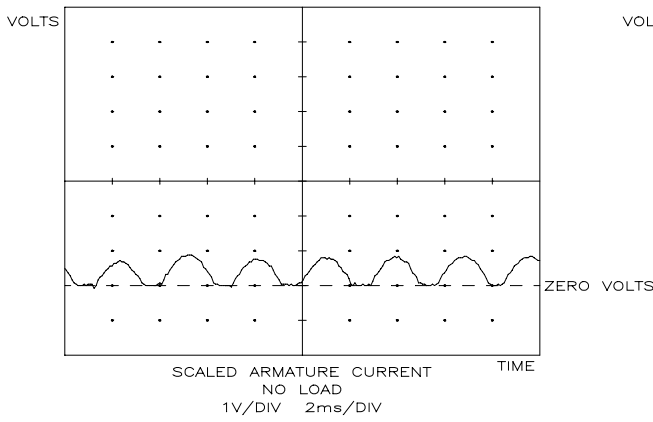

FIGURE 12
The polarity of the current signal is controlled by the positive/negative bridge selection signal, which connects to a polarity control circuit. LEDs I1 and I2 on the CONTROL board indicate which bridge has been selected and the polarity of the current signal. Refer to SECTION 6.11 for a description of this polarity circuit. The bi-polar current feedback signal connects to the current loop error amplifier and the IR COMP circuit. OP AMP A8-C buffers the current feedback signal, which can be monitored at TP21 (S) and TB2B-18. Refer to FIGURE 12 & 13 for typical waveforms under no load and full load.